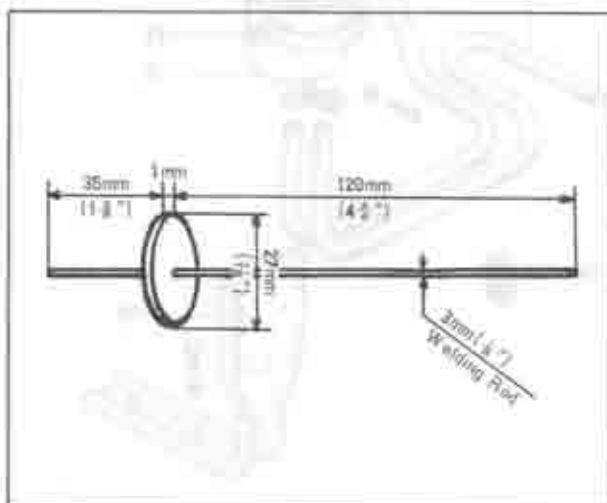

Fig. 10A-2 Stick
2. To minimize aeration and foaming, install a stick (Fig. 10A-2) in the reservoir with the short end down into the fluid return port on the bottom of the reservoir.